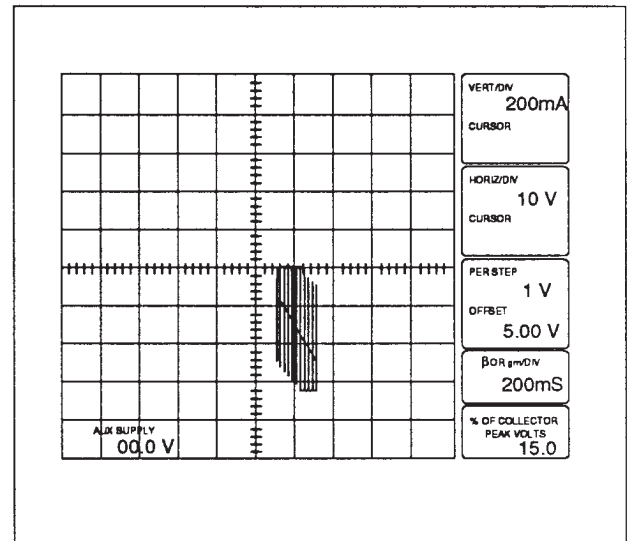

Figure 4-10. Third test display for Maximum Current check.
k. Set the VARIABLE COLLECTOR SUPPLY control so the negative travel of the center vertical line of the displayed waveform extends past 2.5 divisions below graticule center (see Figure 4-10).